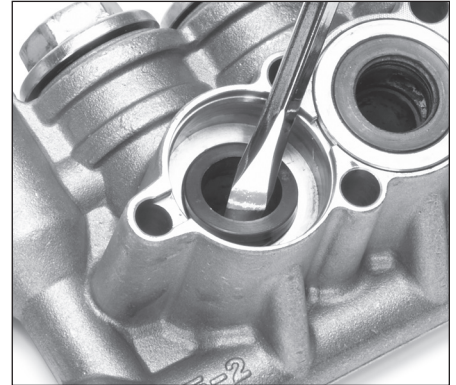

Figure 7
6. Remove high-pressure seal from each seal chamber (See Figure 7).